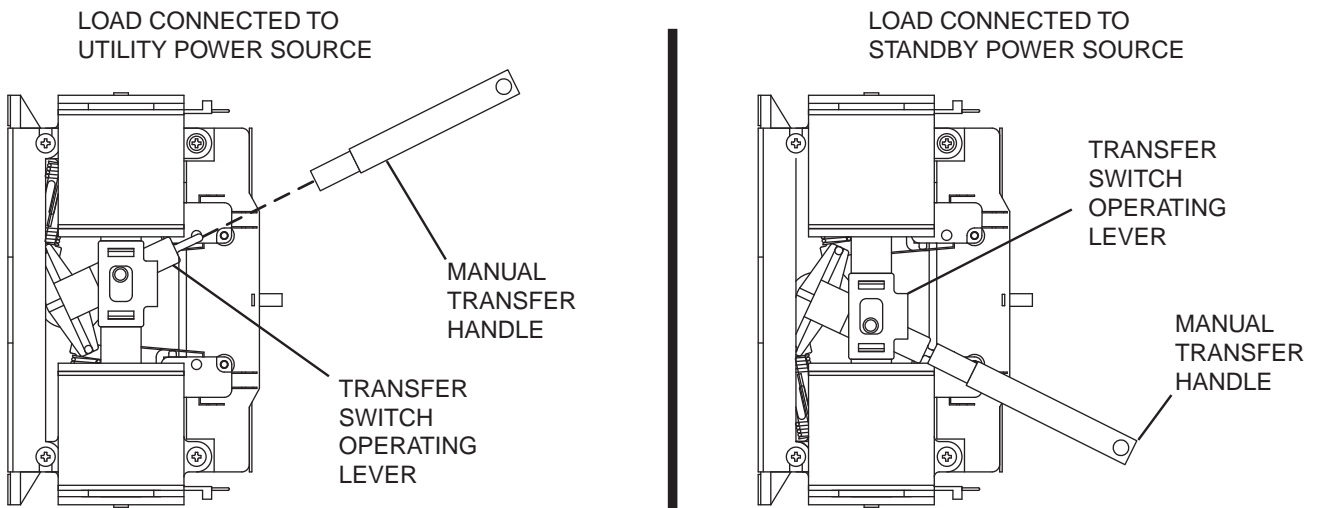

Figure 74. Manual Transfer Switch Operation
5. Insert the un-insulated end of the handle over the transfer switch-operating lever. Refer to Figure 74.